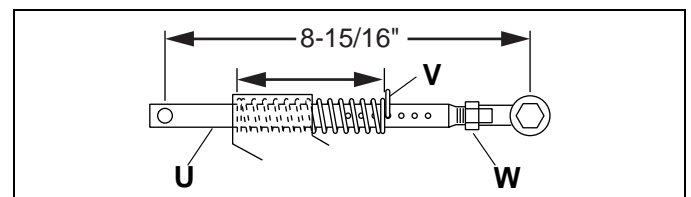

Figure 4F
3. Raise reels and install down pressure spring pins (**V**, Figure 4F). If cutting height has not changed, set pins in same position they were in when reels were removed.
1. Lower reels to the ground and remove down pressure spring pins (**V**, Figure 4F). Make note of where springs are set.